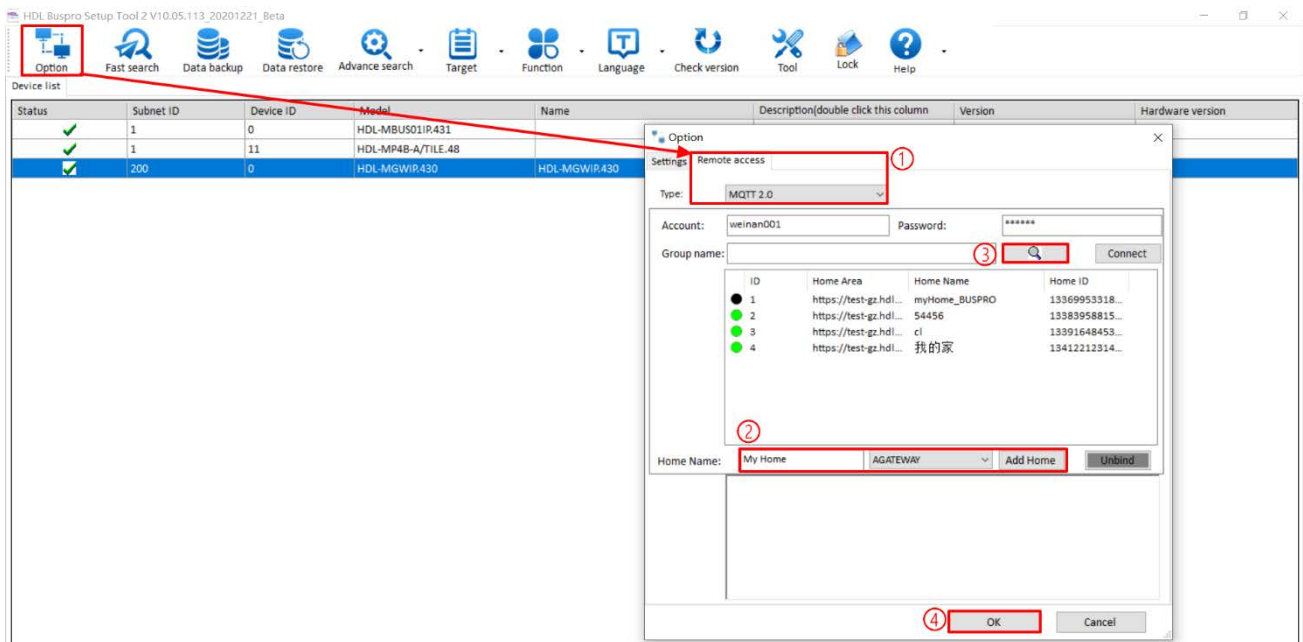

Figure 2-3 Remote Access Settings
- ① As shown in Figure 2-3, open Buspro Setup Tool 2, click “Option” → “Remote access” → Select the type “MQTT2.0”.
- ② Add home, e.g., input “My Home” → Select “AGATEWAY” → Click “Add Home”.
- ③ Click the search icon, the area you added can be shown in below list.
- ④ Click “OK” to complete the setting.